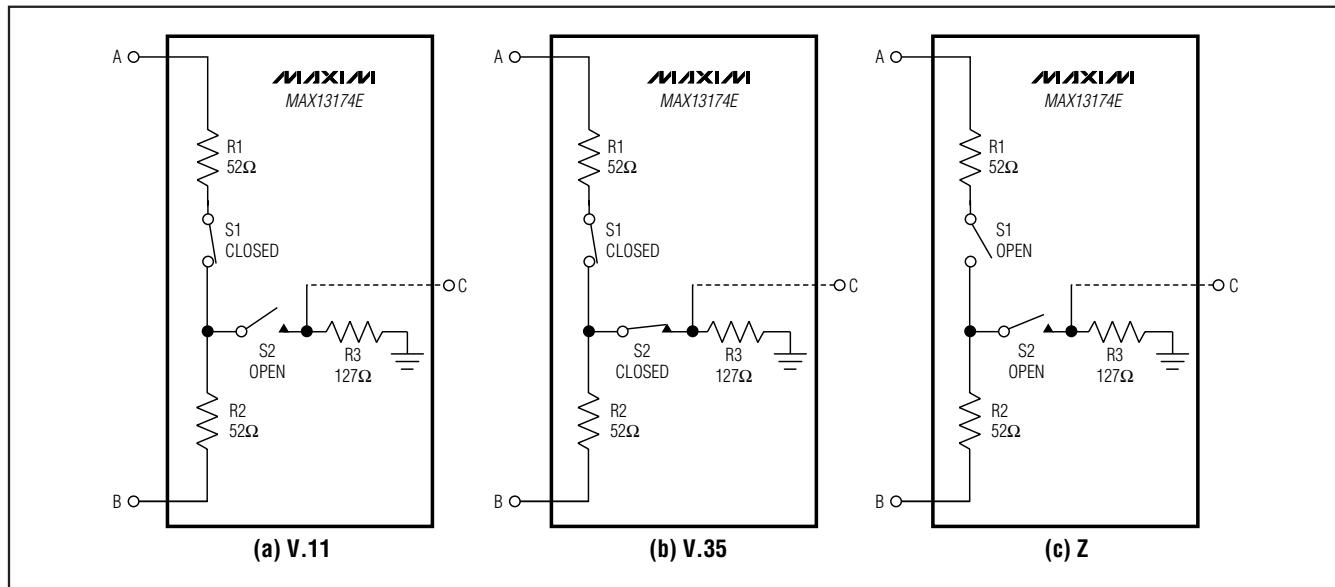

Figure 4. Termination Modes
The termination networks in the MAX13174E can be set to one of three modes: V.11, V.35, or high impedance. As shown in Figure 4, in V.11 mode, switch S1 is closed and switch S2 is open, presenting 104 $\Omega$  across terminals A and B. In V.35 mode, switches S1 and S2 are both closed, presenting a T-network with 104 $\Omega$  differential impedance and 153 $\Omega$  common-mode impedance. In high-impedance mode, switches S1 and S2 are both open, presenting a high impedance across terminals A and B suitable for V.28 and V.10 modes.
The MAX13174E enters no-cable mode when the mode-select inputs—M0, M1, and M2—are connected high. In no-cable mode, all six termination networks are placed in V.11 mode, with S1 closed and S2 open (Figure 4).
**Note:** Z indicates high impedance, 1 = high, and 0 = low. Z, V.11, and V.35 refer to termination modes (Figure 4).